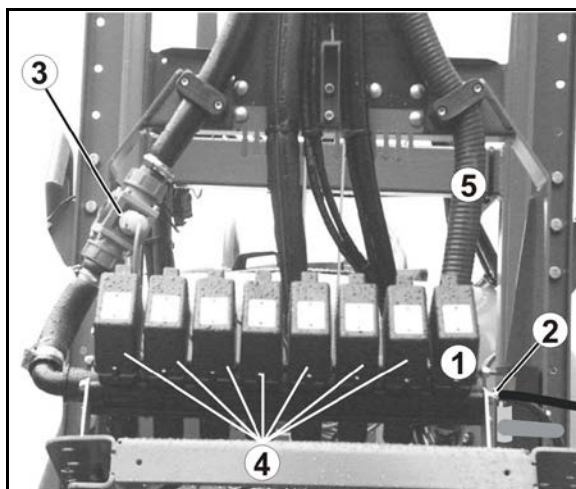

Fig. 82
Raise the sprayer boom using height adjustment until the catching lugs (**Fig. 82 /1**) are released from the catching sockets (**Fig. 82 /2**).
**Fig. 82** shows the unlocked sprayer boom.